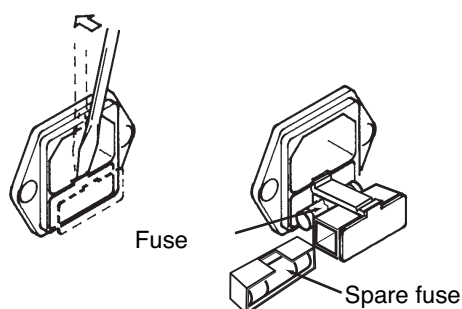

Fig.5-1 Removing the fuse holder
3. Remove the fuse holder using a tool such as a flat-blade screwdriver as shown in Fig. 5-1.